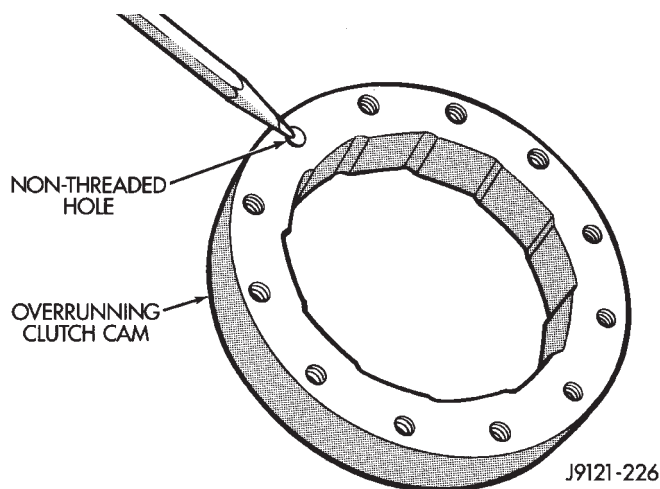
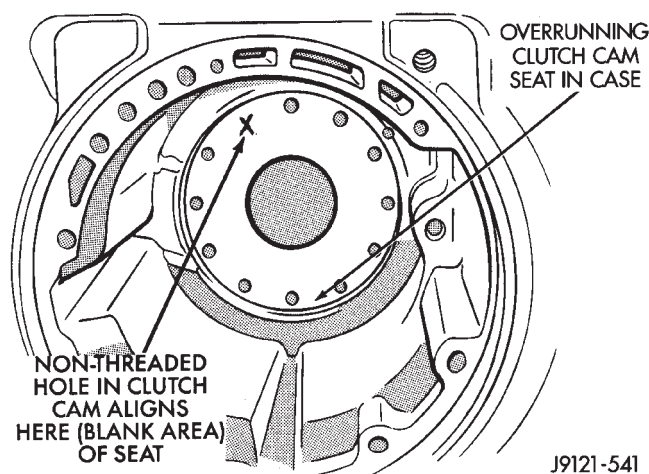
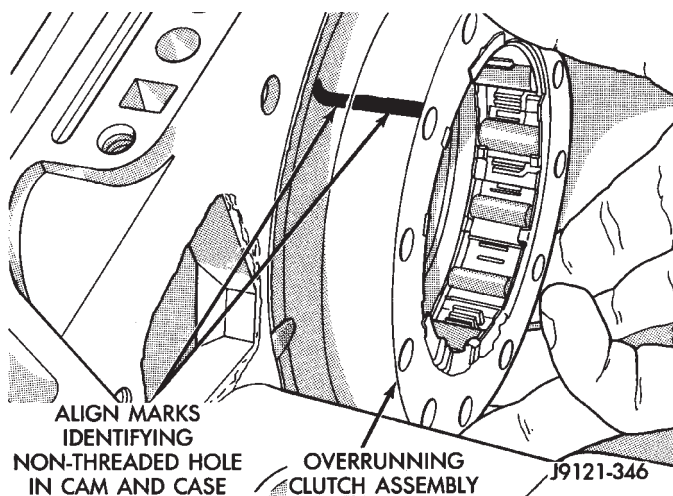

Fig. 142 Location Of Non-Threaded Hole In Clutch Cam
Fig. 143 Location Of Blank Area In Clutch Cam Bolt Circle
Fig. 144 Overrunning Clutch Installation
(4) Examine bolt holes in overrunning clutch cam. Note that one hole is **not threaded** (Fig. 142). This hole must align with blank area in clutch cam bolt circle (Fig. 143). Mark hole location on clutch cam and blank area in case with grease pencil, paint stripe, or scribe mark for assembly reference.
(5) Mark location of non-threaded hole in clutch cam and blank area in bolt circle with grease pencil.
(6) Align and install overrunning clutch and cam in case (Fig. 144). **Be sure cam is correctly installed. Bolt holes in cam are slightly countersunk on one**